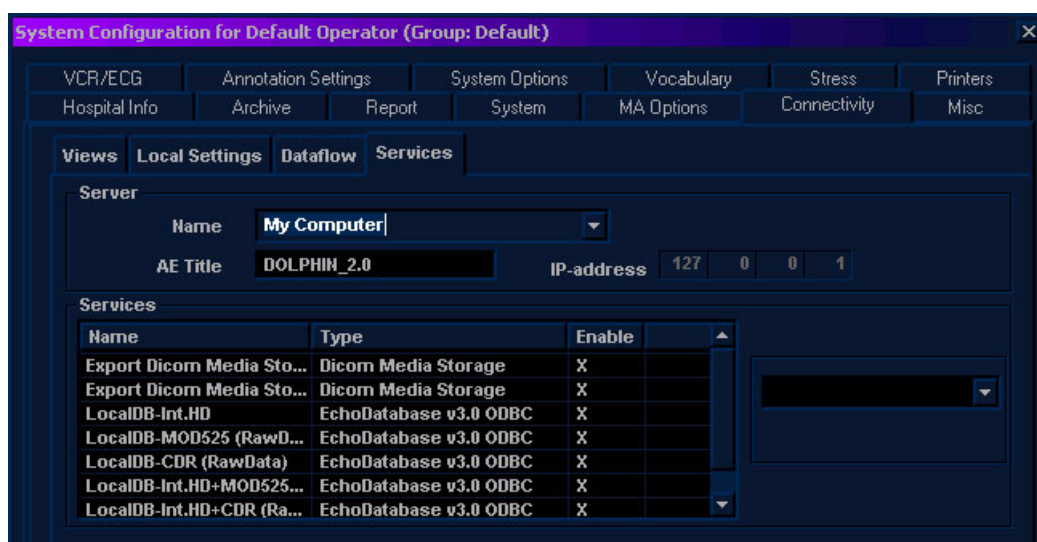

Figure 3-41 Services Tab
- 6) Trackball to the **Services** tab and press **Select**. The **Services** tab is displayed, as shown in Figure 3-41 on page 3-59.